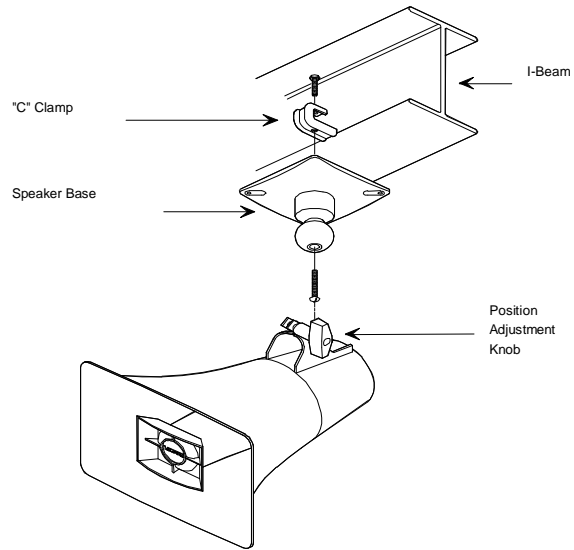

Figure 2 - Mounting to a Beam with a "C" Clamp
- A "C" clamp is provided with the ringer to allow mounting to a beam. Place the bolt through the hole in the bottom of the base to secure the "C" clamp to the beam. (See Figure 2).
The V-9945A may be rotated or moved up and down to obtain the desired position by loosening the knob (See Figures 2 and 3) at the bottom of the unit approximately 1 turn. Make required adjustment and re-tighten knob.